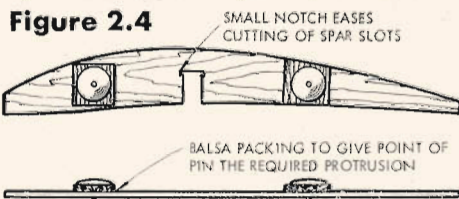

Figure 2.4
The chief point to watch in using a template is that it is held firmly whilst the cut is made. This is not so easy as it sounds. Awkward grain can play havoc with your intentions particularly when cutting on the nearest side of the template. If you do have difficulty with this, *figure 2.4* gives a suggestion which will cure the trouble. Two small drawing pins are pushed through pieces of balsa and then through the template, and glued. The pieces of balsa are of
*Figure 2.4* also shows a tip which is helpful in cutting the spar slots. A slight nick is made which allows the balsa knife to get right into the corners and give a clean cut which removes all the waste wood. It should be noted that spar slots are cut *after* the main rib outline has been separated from the sheet but before the template is moved. In other words the first (outline) cut goes straight across the end of the spar slots. The sides of spar slots should usually be cut by inserting the point of the knife